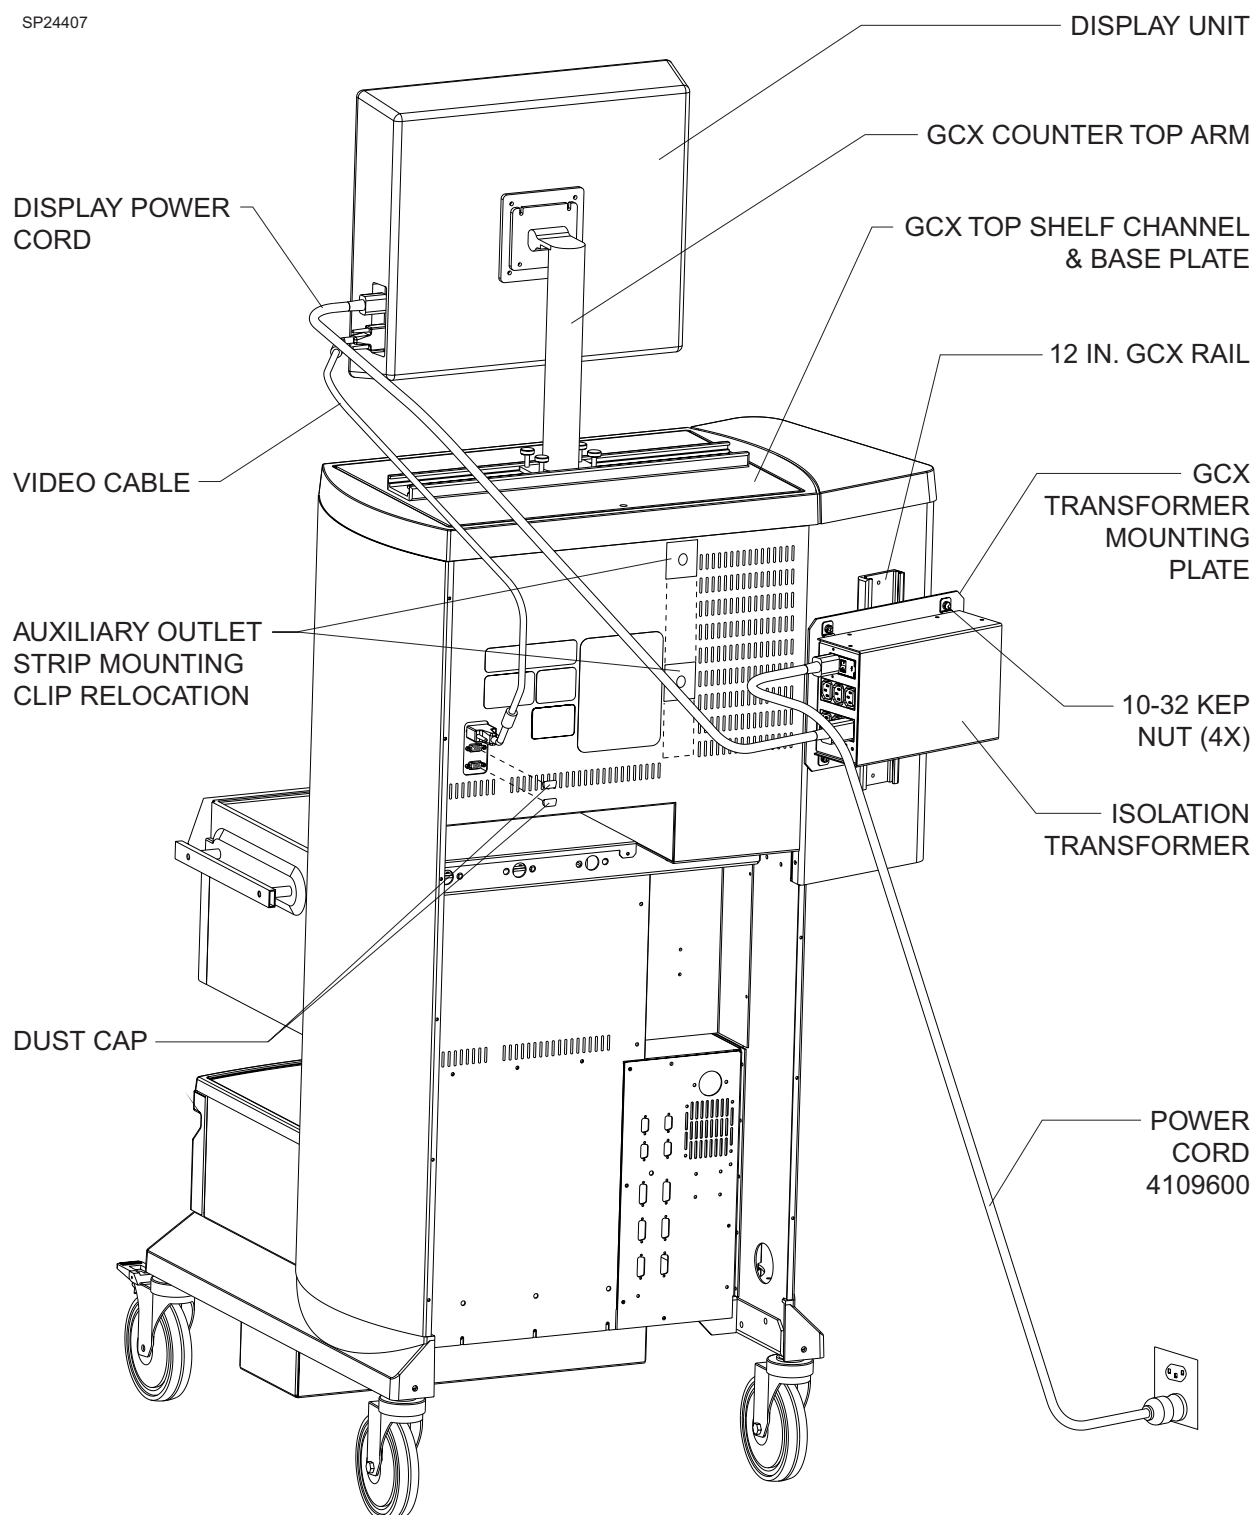

FIGURE 7. Machine-Mounted Display Installation
NOTE: If machine is fitted with an electrical outlet strip, remove this device and relocate it to the back panel as shown in Figure 7.
- 3.4 Install the 12 in. GCX rail (4117788) on the back of the machine using the hardware supplied by GCX. See Figure 7.
- 3.6 Attach the isolation transformer (4114985), oriented as shown in Figure 7, to the transformer mounting plate with four 10-32 Kep nuts.
- 3.10 Connect video cable (4117781-005) from the display unit to the Video 1, Video 2, or Video 3 connector on the back of the machine as shown in Figure 7.
- 3.12 Connect the display power cord (4113389) from the display unit to the isolation transformer as shown in Figure 7.
- 3.13 Connect the 15 ft. power cord (4109600) to the isolation transformer as shown in Figure 7. Connect the other end of the cord to a hospital AC wall outlet.